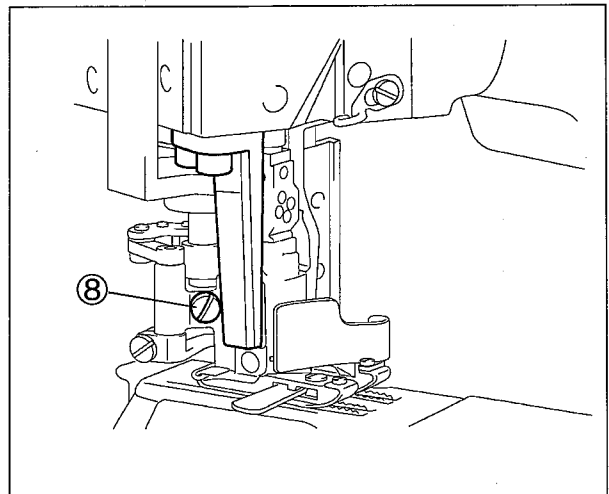

Fig. 84
- (1) Remove all needles and the seal plug ①.
- (2) Loosen the adjusting screw ② and then the screw ③ of the presser bar connecting bracket.
- (3) Loosen the screw ④ of the knife holder guide collar to be free the complete set including the upper knife, the knife holder, and the knife holder shank.
- (4) Loosen two screws ⑦ of the knife holder bracket ⑥ to remove the knife holder guide collar, c. set ⑤ and the upper knife.
- (5) Loosen the screw ⑧ on the back of the presser foot. (on the left side on “-07” and “-12” models: Fig. 84)